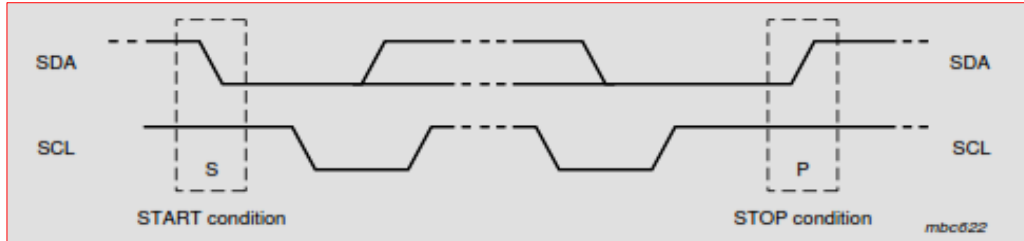

Figure 21, Section 5. Definition of START and STOP Conditions
Both data and clock lines remain HIGH when the bus is not busy. A HIGH-to-LOW transition of the data line, while the clock is HIGH, is defined as the START condition (S). A LOW-to-HIGH transition of the data line, while the clock is HIGH, is defined as the STOP condition (P) (see Figure 21, Section 5).